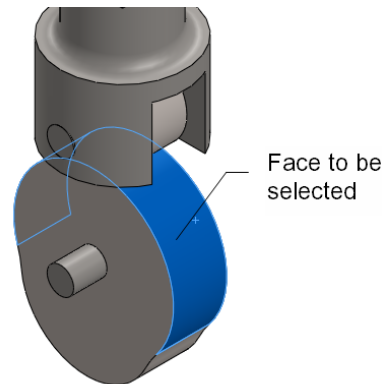

Figure 20-27 Face to be selected for specifying direction of rotation
3. Select the round face of the cam; a motor will be applied. Also, the direction of rotation is indicated by a red arrow, refer to Figure 20-27.